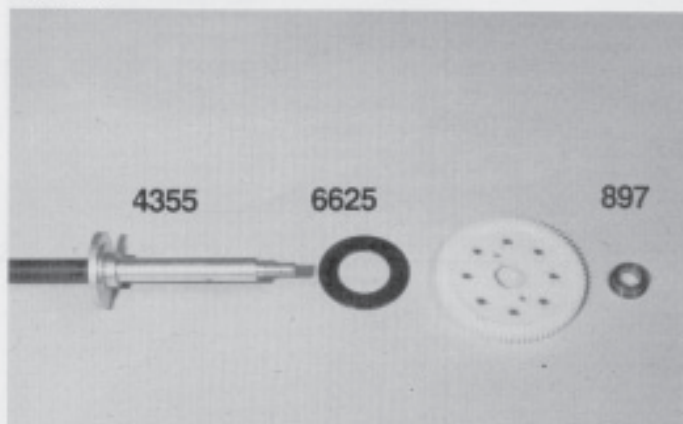
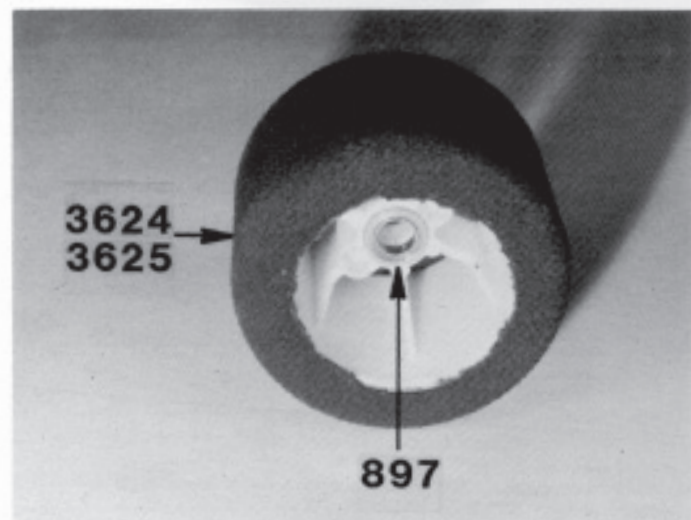

Fig. 62
Fig. 65
Fig. 62 In bag #8 you will find the #4355 graphite rear axle, and two #6625 diff drive rings. Take the remaining two #897 1/4" x 3/8" flanged rear axle bearings out of the bearing bag. Slide one of the #6625 drive rings onto the #4355 rear axle and seat it onto the aluminum hub. It is easier to do if you hold the axle upright (hub side up). Now install the #8280 spur gear with balls onto the axle diff hub and seat it onto the hub. Now take one of the #897 rear axle bearings and slide it onto the axle. Make sure that the flanged end goes on first and that it seats down against the diff hub. This ball bearing must be able to slip into the #4360 plastic bearing mount later. We will set these parts aside for just a moment.
□ **Fig. 65** Take one of the #3625 rear wheels with tires and push the last #897 1/4" x 3/8" flanged bearing (from Fig. 62) into the outside of the wheel center as shown. This wheel will become our right hand diff wheel.